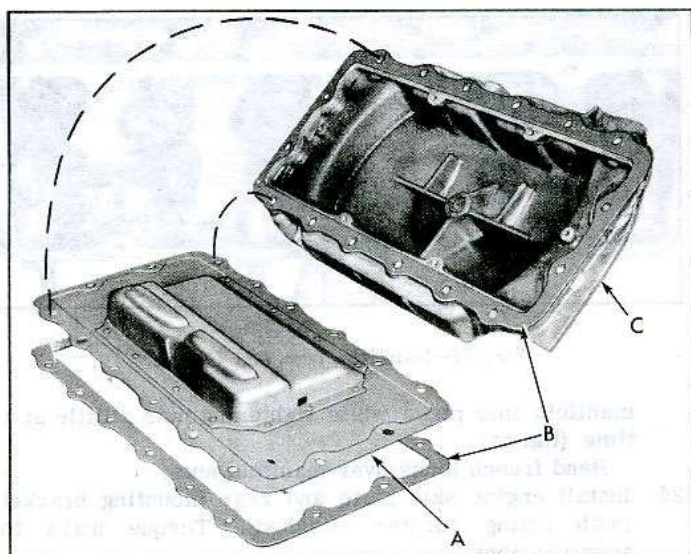

Fig. 66—Crankcase Cover and Vent
17. Install a new crankcase cover gasket, then crankcase vent and another new crankcase cover gasket. (fig. 66) Install crankcase cover and torque to specifications.